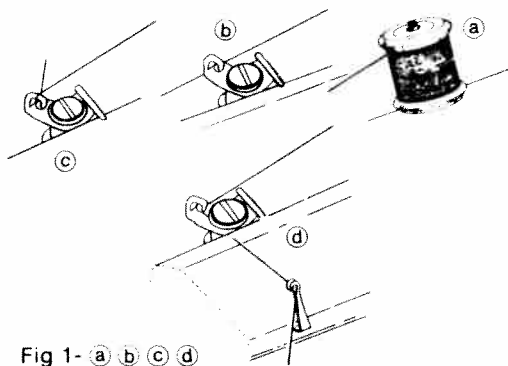

Fig 1- a b c d
(Fig. 1)
1. Remove the table from the machine by pulling the base to the left. (Fig. 1,2)
2. To replace the table, simply slide it along the free arm to its original position. (Fig. 1)
1. Place thread on spool pin as shown, with the thread coming from the back of the spool (Fig. 1-a). Draw thread through the top thread guide (Fig 1-b & c). Pass thread through top thread guide (Fig. 1-d)